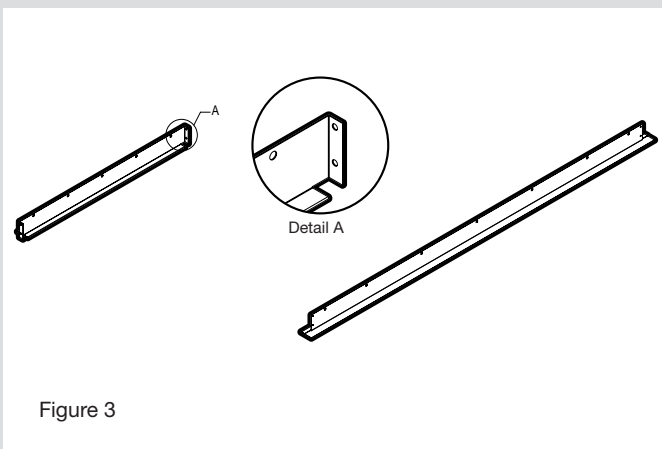

Figure 3
2. Identify the side rails and end caps (Fig. 3).